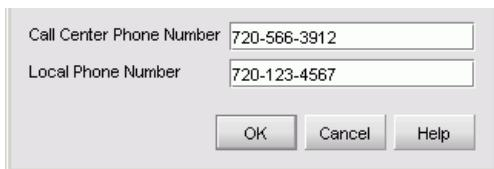

Figure 33: Test Remote Notification dialog box
4. At the **Product View** page, choose **Maintenance > Test Remote Notification**. The Test Remote Notification dialog box displays (Figure 33).